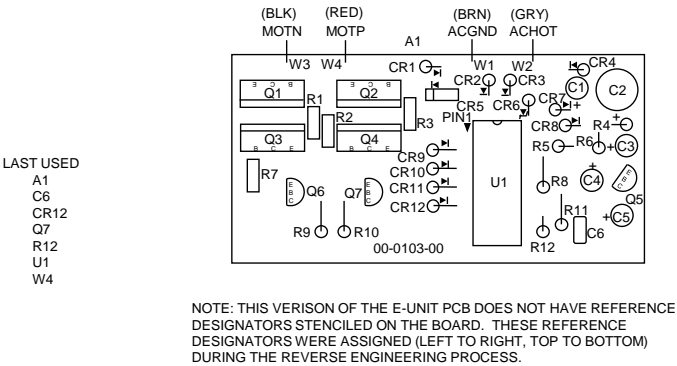
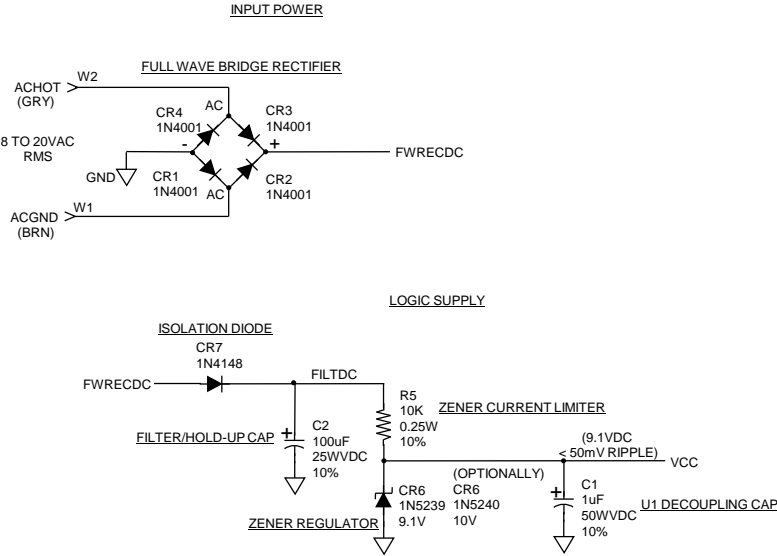

Figure 1 - PCB Layout
Figure 2 - Schematic Page 1
The components used on the E-Unit PCB are shown in Table 3. Note: The part numbers were determined by reverse engineering and may not be the actual parts in the design (but are compatible). This was due to poor readability of the markings on most components used on the subject E-Unit used in the reverse engineering process. See Figure 1 for each component's placement on the PCB (A1).
This section (see Figure 1 and Figure 2) consists of four diode rectifiers (CR1, CR2, CR3 and CR4) arranged in a Full-Wave Bridge. The Full-Wave Bridge converts the AC inputs: ACHOT (W2), and ACGND (W1), into a full wave DC (high ripple) signal (FWREDC) from the Positive (+) output of the bridge with respect to the negative (-) output of the bridge, which is Ground (GND). The AC Input voltages are typically anywhere from 8 VAC RMS to 20 VAC RMS (depending on the external Track Transformer throttle position). 8 VDC to 20 VDC can also be used to supply the E-Unit as the Full-Wave Bridge inherently allows for this. The FWREDC signal provides power to the Logic Supply, Power Interrupt Detector, and the Motor Switch circuitry.
This section (see Figure 1 and Figure 2) creates the supply voltage (VCC) to the Direction Logic and a bias voltage for the Power Interrupt Detector circuitry. FWREDC passes through an isolation diode (CR7) so that the FILTDC signal can be created by the 100uF capacitor (C2). This capacitor has two functions, first to filter the high DC ripple of the FWREDC signal into a smooth DC voltage. Second, this capacitor acts as a Hold-Up supply to keep VCC constant during power drop-outs (for instance when commanding the E-Unit to change states). The load of the VCC signal is so low that this capacitor can keep VCC constant for several minutes. The FILTDC signal is passed to a Zener Current Limiting resistor (R5) and a 9.1 V Zener Diode (CR6). This arrangement shunt regulates the smooth FILTDC voltage (which can be anywhere between 11 VDC and 28 VDC depending on the filtering action of the AC input voltage) down to a constant 9.1 VDC to become the Supply Voltage for other circuitry (VCC). A
This section (see Figure 1 and Figure 3) creates a positive going pulse when the AC input power is briefly dropped (about 1 second) and then restored. FWREDCD passes through an isolation diode (CR8) so that the TRIGDCFLT signal can be created by the Low Pass Filter (R4 and C3). This Low Pass Filter "smooths" the high DC ripple of the FWREDCD signal into a steady DC voltage.
This section (see Figure 1 and Figure 3) consists primarily of a two-bit binary counter (4 condition state machine) implemented in a Dual D-Type Flip/Flop (U1). Each Flip/Flop is configured as a digital Toggle Flip/Flop. The Flip/Flops are powered by VCC (which remains constant even during AC input power drop-outs). A Power-On Reset Circuit (C4 and R12) is a simple differentiator that will generate a short pulse (RESET) which is sent to the Reset Inputs (R) on each Flip/Flop. The pulse will only be generated if the AC input power is off for a substantially long period of time (on the order of several minutes - when VCC decays to near 0V). The RESET signal places both Flip/Flops in Reset (Forward state).
This section (see Figure 1 and Figure 4) consists primarily of four transistors (Q1, Q2, Q3, and Q4) arranged in a H-Bridge. The H-Bridge is an electronic implementation of a Double-Pole/Double-Throw (DPDT) switch with Center Off. Resistors (R1, R2, R3, and R7) limit the current through the Base of each transistor (Q4, Q1, Q3 and Q2) respectively to allow saturation without overdriving the transistors.